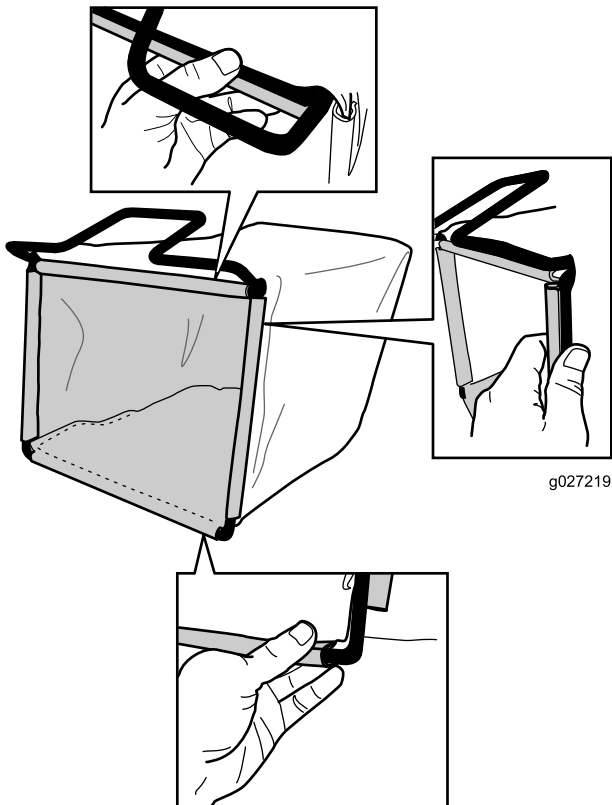

Figure 8
2. Hook the bottom channel of the bag onto the bottom of the frame (Figure 8).
3. Hook the top and side channels of the bag onto the top and sides of the frame, respectively (Figure 8).